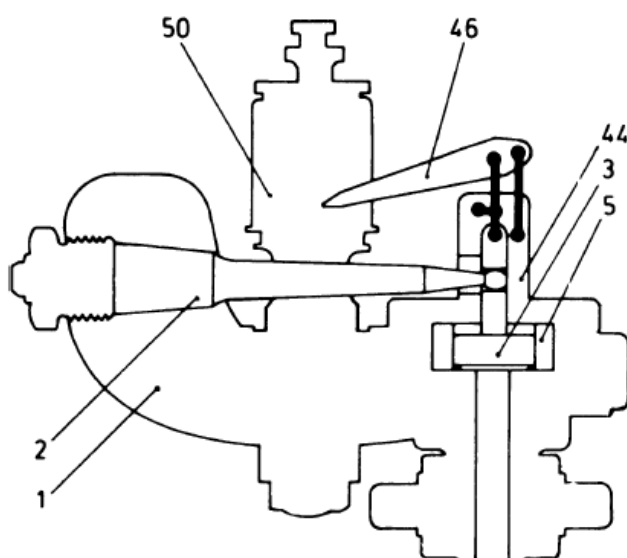

Fig. 1 - Schematic drawing
Fig. 1 shows the schematic outlines of the Leutert bar spring indicator drawing particular attention to its principal features. Contrary to the indicators types 50Z1 and 30/1, the type S1 indicator has a bar spring (2) instead of a double-coiled helical spring which - being a body of almost equal resistant - is stressed by bending. The special design of its indicator places its natural frequency far above that of indicators using a helical spring. Consequently, type S1 indicator permits perfect diagrams to be obtained at speeds up to about 2400 min^{-1} and pressure change rates up to about 32000 bar/sec .